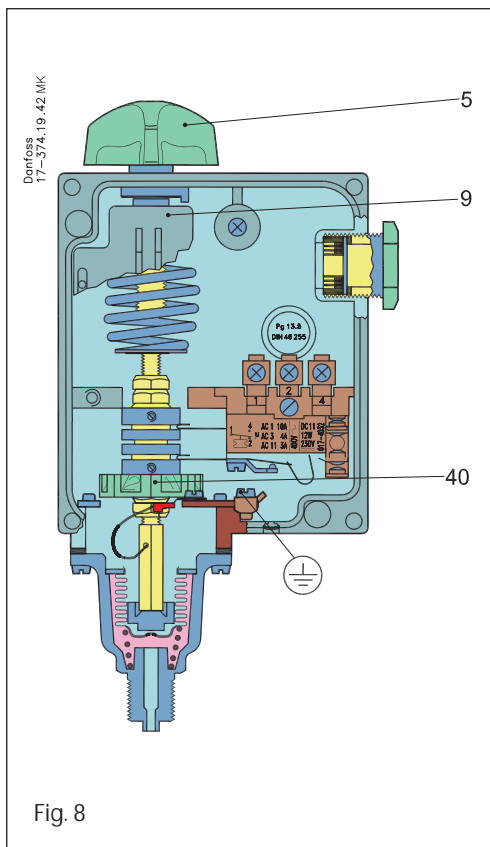
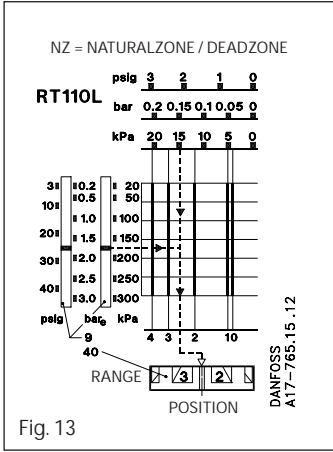

Fig. 8
Fig. 13
The interval in the controlled variable in which the correcting element does not respond (see Fig. 13)
The range is set using the setting knob (5) in Fig. 8 while reading the range scale (9). The pressure set is the break pressure for contacts 1-4 (see Fig. 13).
The required neutral zone can be found in the diagram for the unit concerned. The position at which the neutral zone disc (40) must be set can be read from the lower scale in the diagram. The function can be seen in Fig. 13.